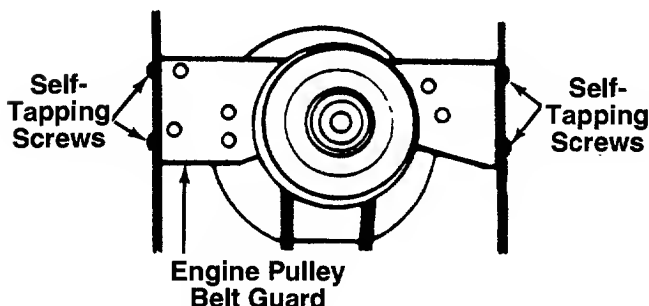

FIGURE 23.
5. Remove the two self-tapping screws on each side of the frame which hold the engine pulley belt guard to the frame. See figure 23. Remove the engine pulley belt guard by slipping it forward and down.